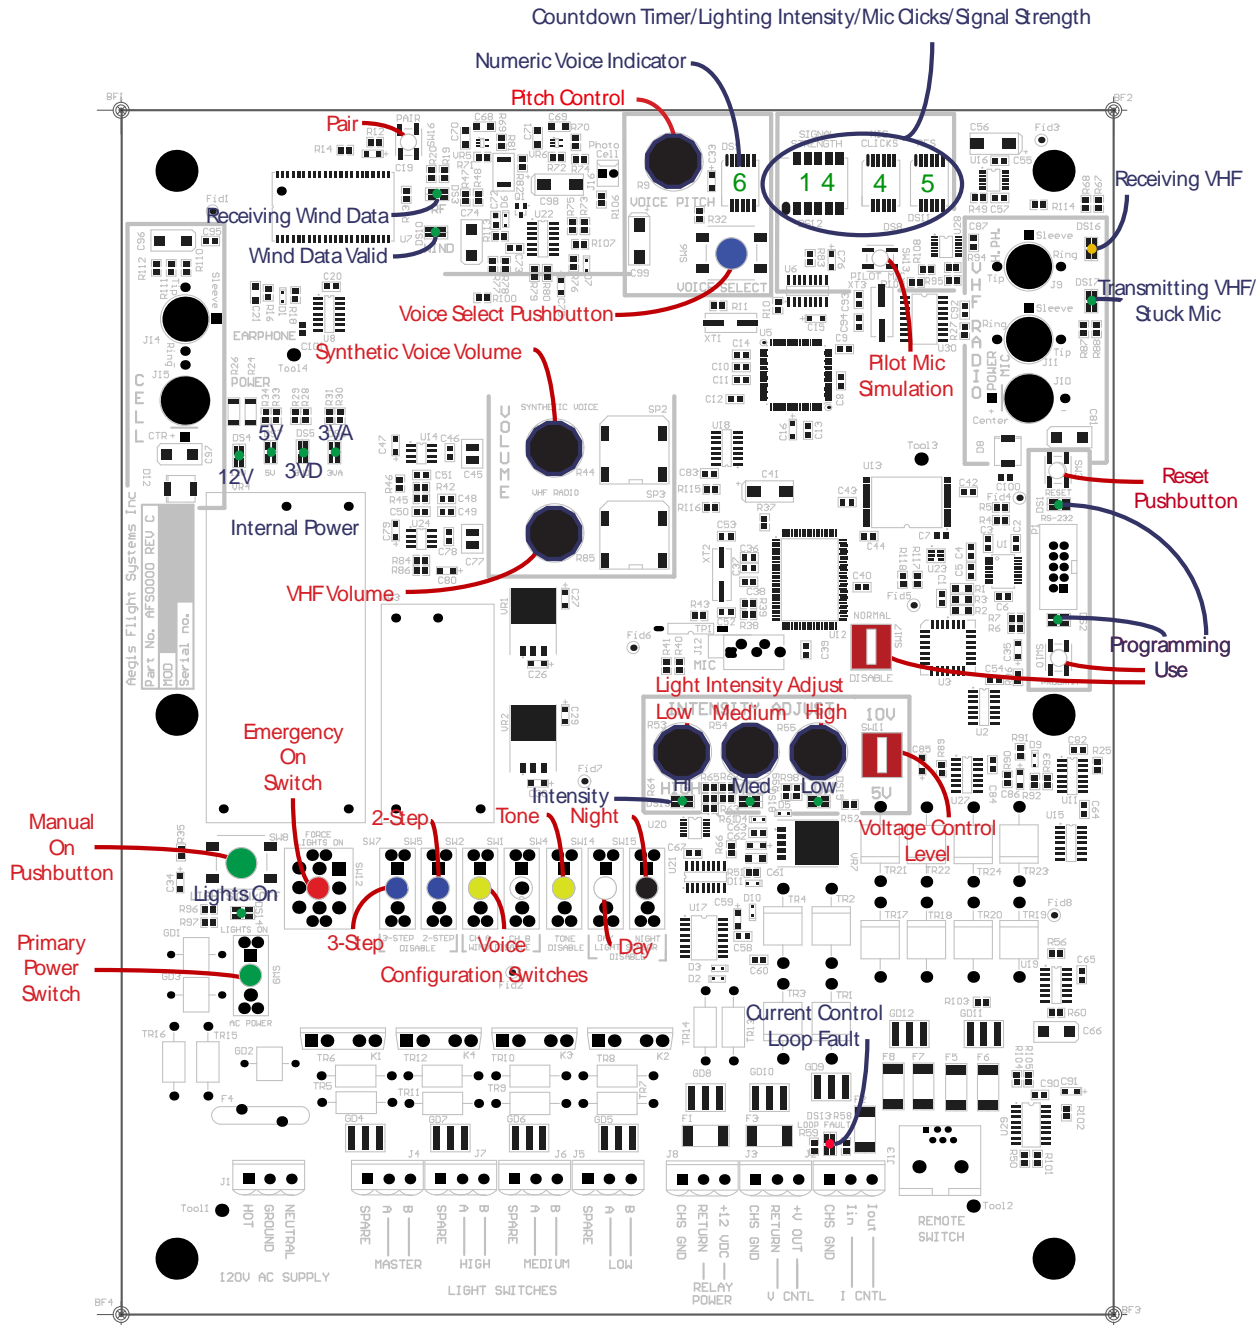
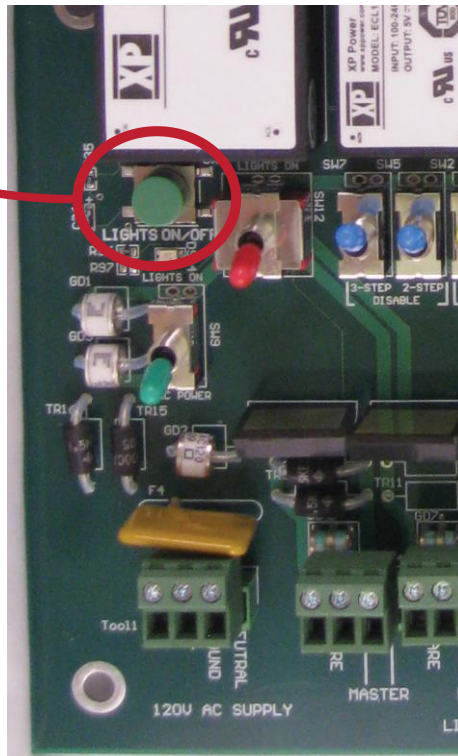

Figure 2: Quick Reference to Switches and Controls
Figure 5: Location of Manual On Pushbutton
See Figure 2 for a quick reference to controls and switches. See Figure 5 for the location of the Primary Power Switch.
2. **Manual Command.** The Manual On pushbutton (See Figure 5) will command the lights to cycle through the various intensities depending on how the Lighting Controller is configured. The Manual On pushbutton is intended for maintenance activities or system checkout.